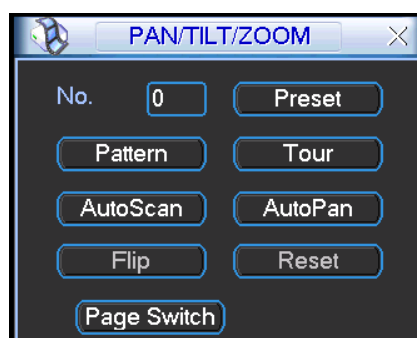
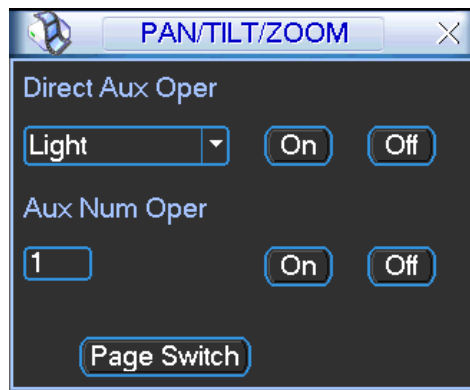

Figure 6-6
Figure 6-11
In Figure 6-2, click page switch button, you can see an interface as in Figure 6-6.
**Note:** The following setups are usually operated in the Figure 6-2, Figure 6-5 and Figure 6-6. In Figure 6-2, use eight direction arrows to adjust camera to the proper position. In Figure 6-5, click preset button and input preset number. The interface is shown as in Figure 6-7.
In Figure 6-6 please input preset number in the No. blank, and click preset button.
In Figure 6-6, input patrol number in the No. blank and click patrol button
In Figure 6-6 input mode value in the No. blank, and click pattern button.
In Figure 6-6, click auto scan button, the system begins auto scan. Correspondingly, the auto scan button changes to stop button.
In Figure 6-6, click page switch button, you can see an interface is shown as below. See Figure 6-11. Here you can set auxiliary function.